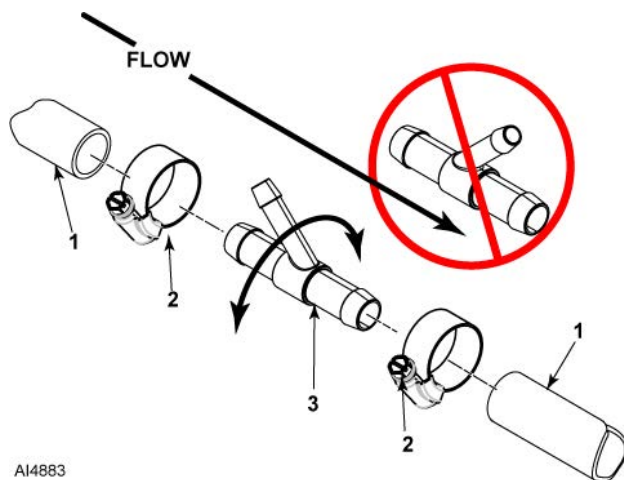

Fig. 13
A. Cut drain hose (1, Fig. 13).
B. Slide a worm-drive hose clamp (2, Fig. 13) onto each drain hose (1) section.
C. Install Tee-adapter fitting (3, Fig. 13) in drain hose (1) and secure with hose clamps (2). Make sure: